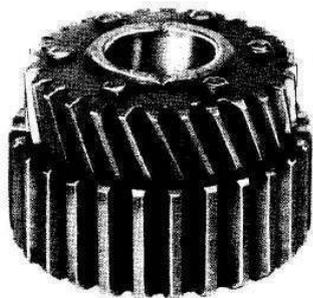

Fig. 33. Internal driver with drive gear
- DRIVE GEAR WITH INTERNAL DRIVER (Fig. 33)